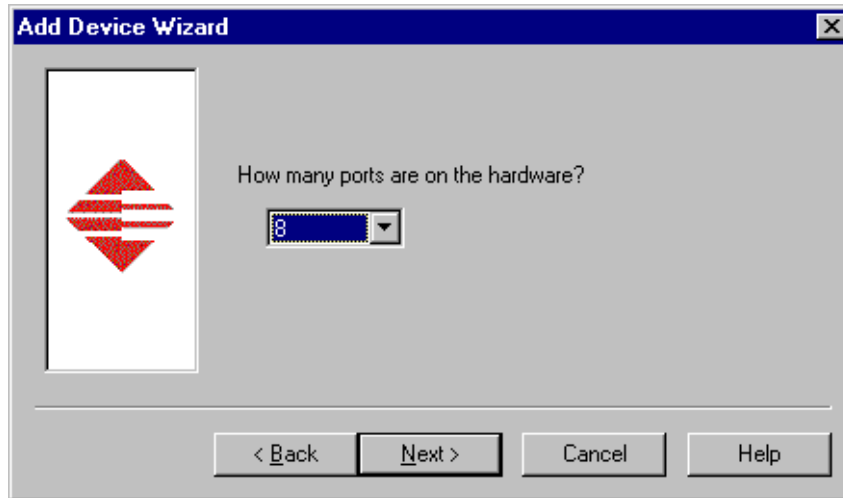

Figure 5. Select eight ports.
10. Select eight ports on the hardware (see Figure 5), then click **Next**.